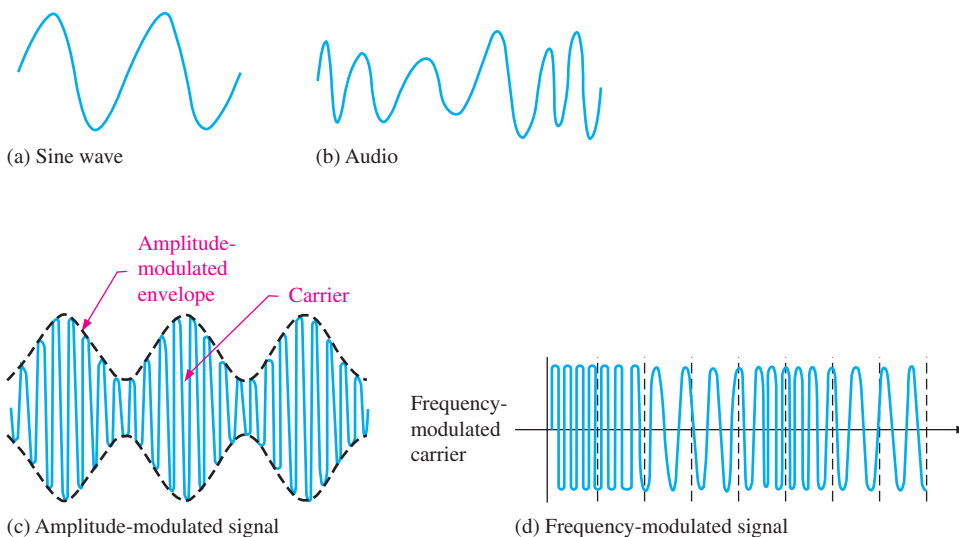

FIGURE SN1-1
An analog quantity, such as voltage, that is repetitive or varies in a certain manner is an analog signal. An analog signal can be a repetitive waveform, such as the sine wave in Figure SN1-1(a), or a continuously varying audio signal that carries information (music, the spoken word, or other sounds), as shown in part (b). Other examples of analog signals are amplitude-modulated signals (AM) and frequency-modulated signals (FM), as illustrated in parts (c) and (d). In AM, a lower-frequency information signal, such as voice, varies the amplitude of a high-frequency sine wave. In FM, the information signal varies the frequency of the sine wave.